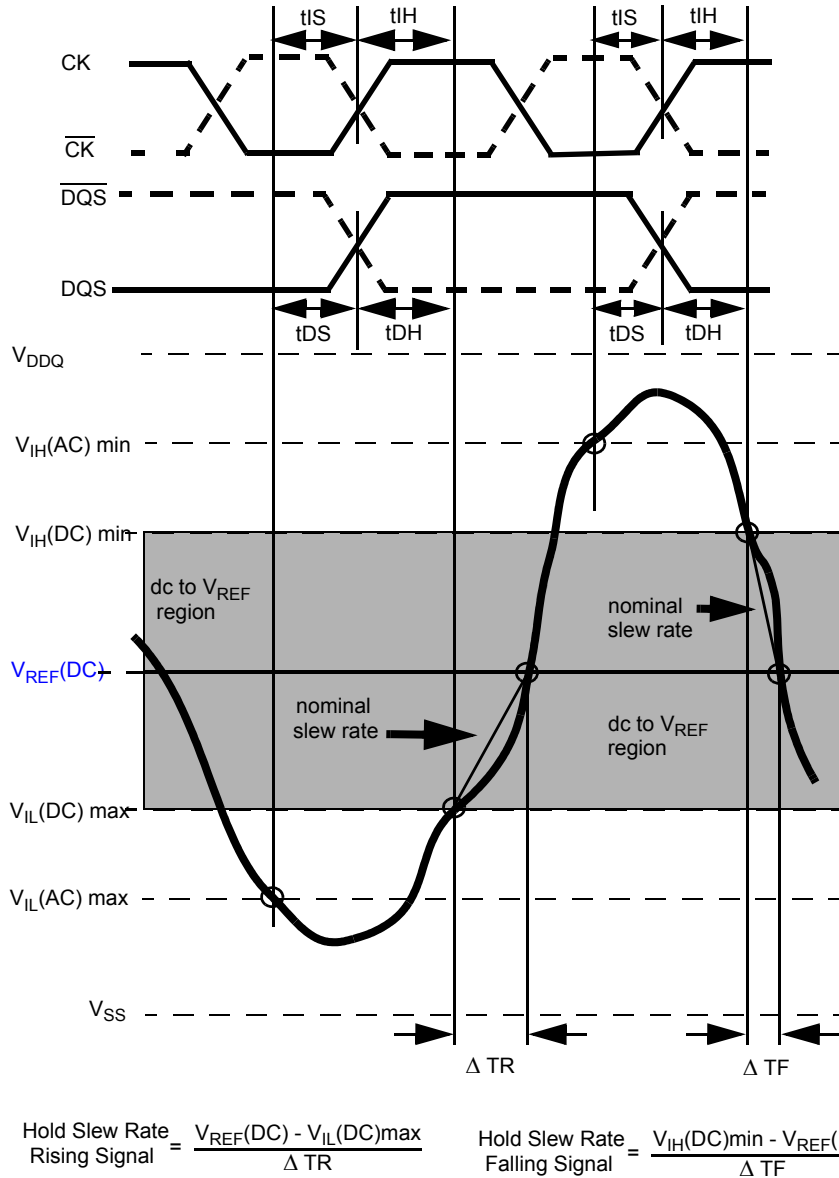

Figure 22. Illustration of nominal slew rate for hold time  $t_{DH}$  (for DQ with respect to strobe) and  $t_{IH}$  (for ADD/CMD with respect to clock).
Hold (tIH) nominal slew rate for a rising signal is defined as the slew rate between the last crossing of VIL(DC)max and the first crossing of VREF(DC). Hold (tIH) nominal slew rate for a falling signal is defined as the slew rate between the last crossing of VIH(DC)min and the first crossing of VREF(DC). If the actual signal is always later than the nominal slew rate line between shaded 'dc to VREF(DC) region', use nominal slew rate for derating value (see Figure 22). If the actual signal is earlier than the nominal slew rate line anywhere between shaded 'dc to VREF(DC) region', the slew rate of a tangent line to the actual signal from the dc level to VREF(DC) level is used for derating value (see Figure 24).